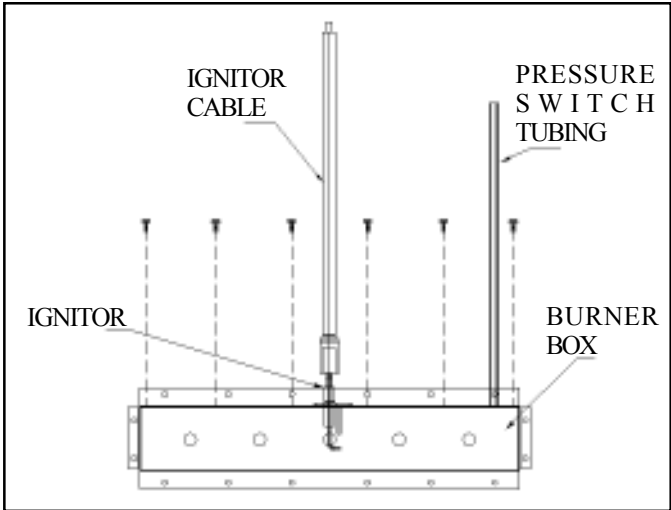

FIGURE 16
- J.) Disconnect ignition cable and pressure switch tubing from top of burner box. (See Figure 16).